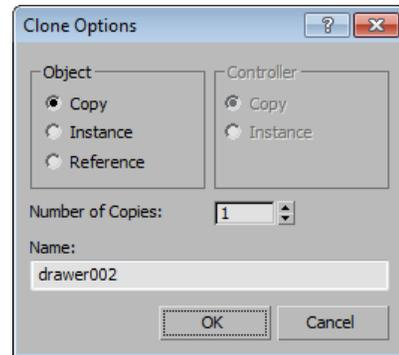

Figure 2-44 The *Clone Options* dialog box
1. Activate the Front viewport and make sure *drawer001* is selected. Next, move the cursor over the Y axis, press and hold the SHIFT key, and drag *drawer001* downward until the value in the Y spinner of the Coordinate display at the bottom of the screen becomes around **-29**. Release the left mouse button and the SHIFT key; the **Clone Options** dialog box is displayed, as shown in Figure 2-44.